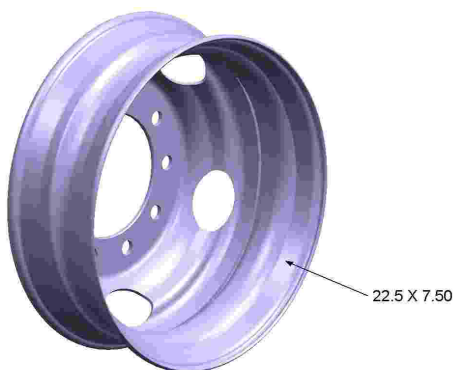

Figure 1: Wheel: Shows the location of the size stamping for both steel and aluminum wheels.
4. Identify any 295/75R22.5 tires on 22.5 X 7.50" wheels or rims on the vehicle, reference Figures 1 and 2. Check the front wheel ends and the rear wheel ends and record how many you will need to replace. Also check the spare if there is one.